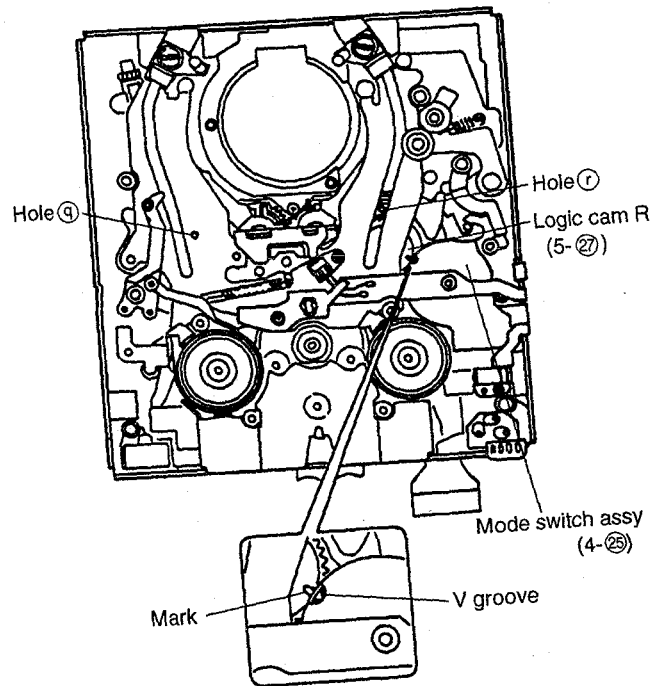

Fig. 10
- 1) Insert a 1 mm dia. rod into hole ④ in Fig. 10, and check to see if it passes through up to the hole in the mechanism chassis.
- 2) Insert a 1 mm dia. rod into hole ① in Fig. 10, and check to see if it passes through up to the hole in the mechanism chassis.
- 3) Check to see if the mark of Logic cam R (5-②⑦) is aligned with the V groove in the Mode switch assy (4-②⑤) gear as shown in Fig. 10.